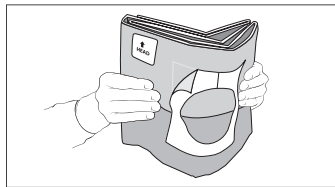

Fig. 7
- Peel off fenestration backing (refer to Fig. 7).